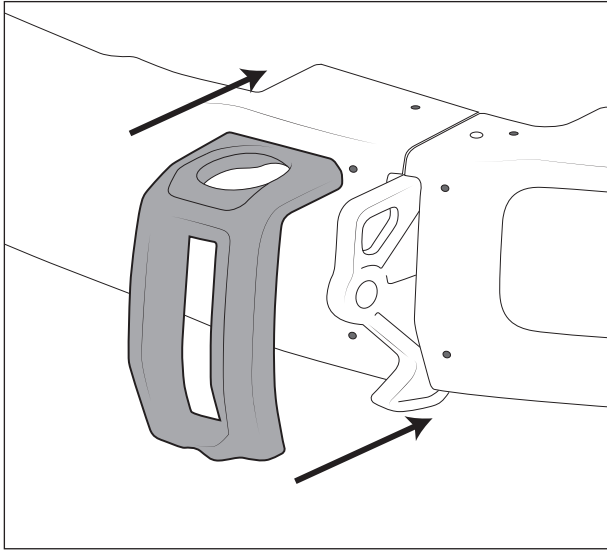

Figure 20
1. Install one side tow loop bezel with M6 x 20 bolts and washers (fig. 20). Hand tighten.